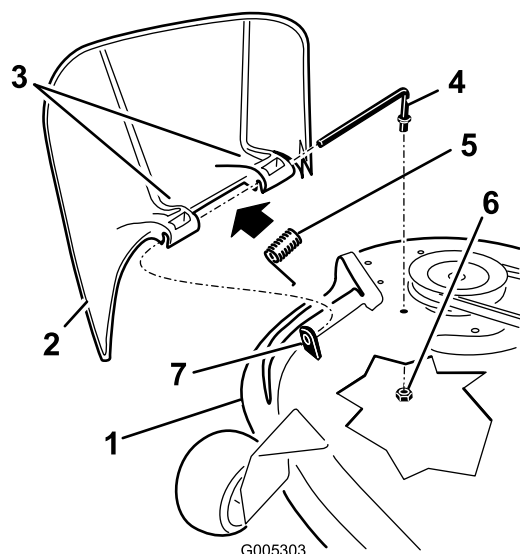

Figure 64
1. Remove the nut (3/8 inch) from the rod under the mower (Figure 64).
2. Slide the rod out of the short standoff, spring, and grass deflector (Figure 64).
4. Replace the grass deflector (Figure 64).
7. Slide rod through the second grass-deflector bracket (Figure 64).
9. Secure the rear end of the rod into the mower with a nut (3/8 inch) as shown in Figure 64.